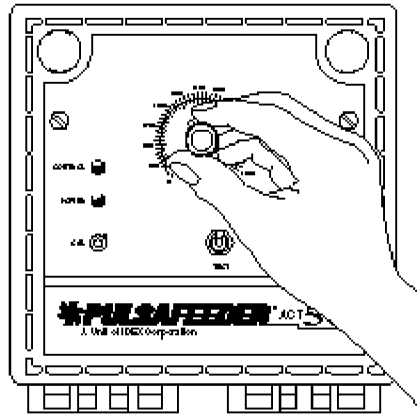

Fig. 7 Position Trip Point Knob
3) Position the Trip Point Knob (See Fig. 7) to the number on the scale that matches the value you measured with the hand held meter in step 2.